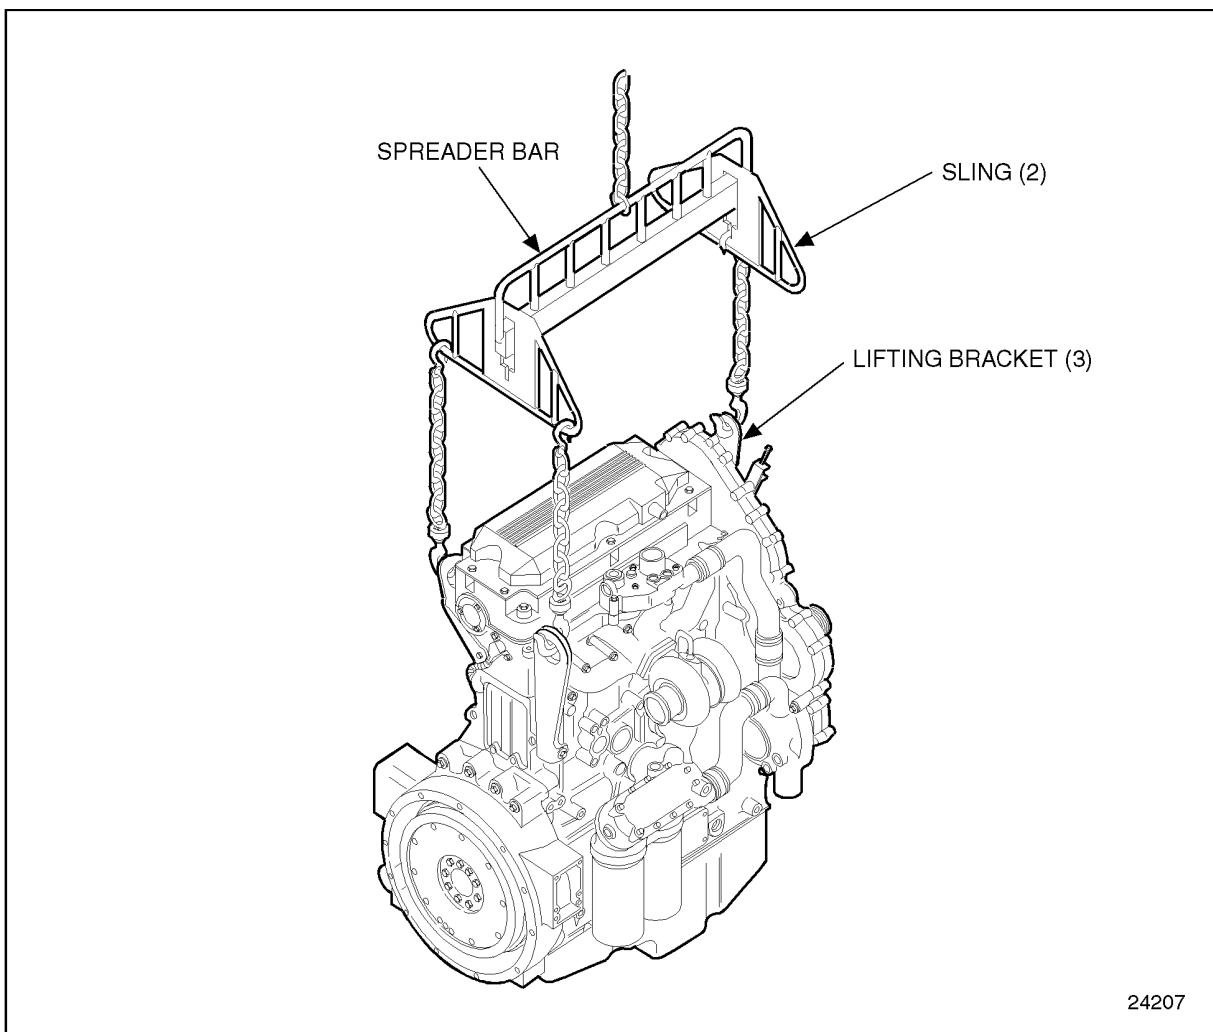

Figure 1-5 Lifting Engine
16. Lift the engine from its mounts using a suitable lifting device. See Figure 1-5.